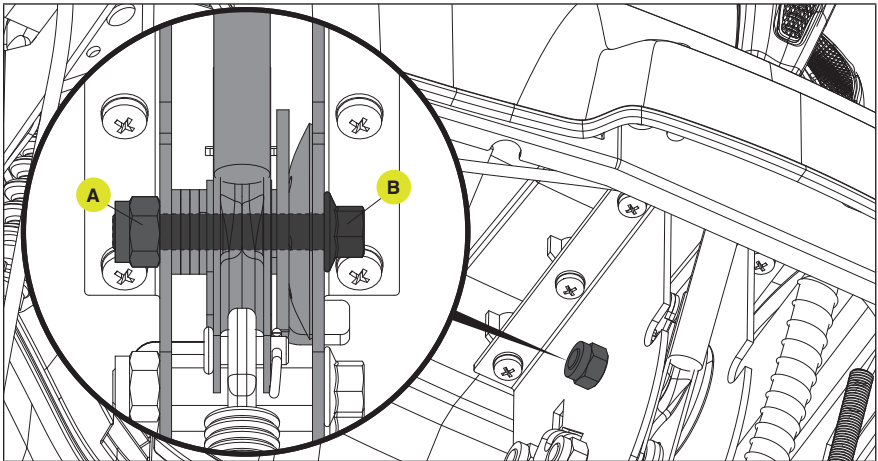

Figure 49
1. Locate M8 lock nut (A) under the panel on the pivot of the chute deflector lever.
2. Locate the head of the M8 bolt (B) on the right side of the lever for the M8 lock nut. (Fig. 49)